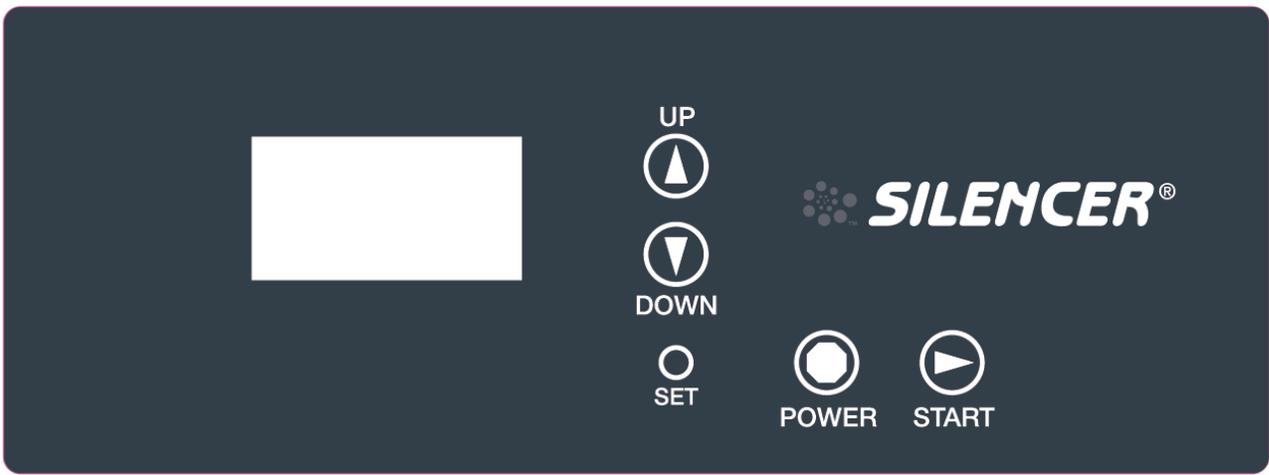

Figure 3.1
- Figure 3.1 Control Panel Layout .....3-1